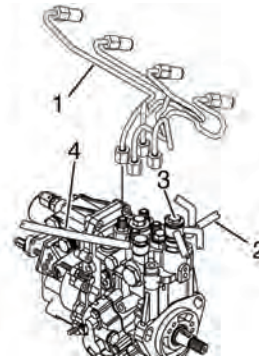

Figure 249
5. Remove the high-pressure fuel injection lines as an assembly (1, Figure 249).
8. Disconnect the coolant lines from the cold start device (3, Figure 249) on the fuel injection pump. Plug the open ends of the lines to minimize leakage and prevent contamination.
9. Disconnect the fuel return lines from the fuel return fitting (2, Figure 249). Plug the open ends of the lines to minimize leakage and prevent contamination.
10. Remove the fuel supply line (4, Figure 249). Plug the open end of the line to minimize leakage and prevent contamination.
For electronically controlled engines 4TNV84TZ, 4TNV98-Z, 4TNV98-E, and 4TNV98T-Z, remove the solenoid valve connector (2, Figure 249), rack actuator connector (4, Figure 249), and engine speed sensor connector (6, Figure 249).